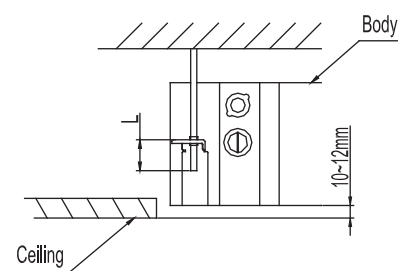

Fig.1-4
- Adjust the position to ensure the gaps between the body and the four sides of ceiling are even. The body's lower part should sink into the ceiling for 10~12 mm (Refer to Fig.1-4).
- In general, L is half of the screw length of the installation hook.(Refer to Fig.1-4)